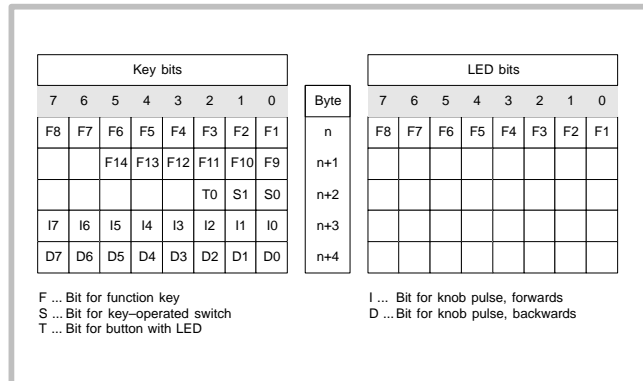

Figure 5-9 Byte assignment of keys and LEDs in input/output area
- After the Mobile Panel 170 has started up, bytes n+3 to n+4 (refer to Figure 5-9) are set to zero. Turning the knob generates positive or negative pulses according to the direction it is turned. The number of positive pulses is stored in bits I0-I7 and the number of negative pulses in bits D0-D7. The values are entered in binary format whereby Bit 0 has the lowest value and Bit 7 the highest. One revolution of the knob provides 50 pulses.